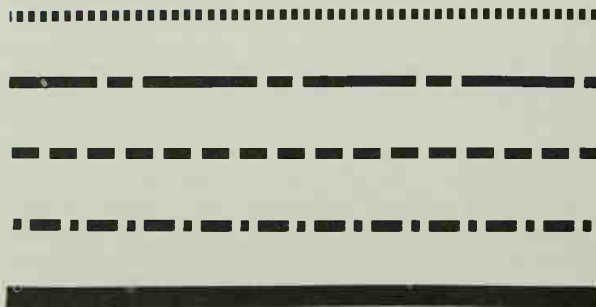

Fig. A6-1. Some chart and graphic art tape styles.
4. Certain areas of the chassis can be highlighted by the use of thin chart tape. These come in solid colors and black, as well as striped designs. See Fig. A6-1.